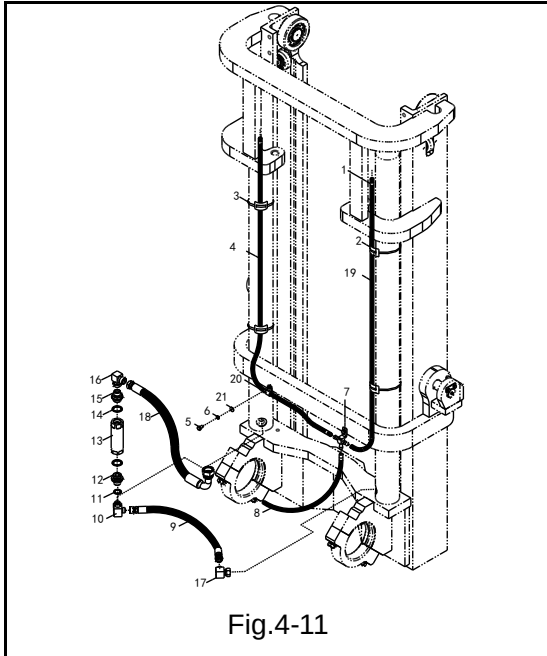

Fig.4-11
3) Disconnect the oil return pipe of lifting cylinder and disassemble inlet pressure hose of the bottom regulator valve and the pressure hose connected to the cylinders(see figure 4-11).